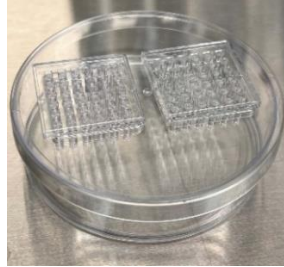

Figure 1. Hydration of the pillar plate surface in a 90 x 15 mm petri dish with 500 µL of sterile, distilled water to minimize air bubble entrapment.
- Hydrate the surface of the pillar plate by inserting two 36PillarPlates in the 36PetriLid on a 90 x 15 mm petri dish containing 500 µL of sterile, distilled water and placing it in a 5% CO₂ incubator at 37°C for 20 - 30 minutes (**Fig. 1**).